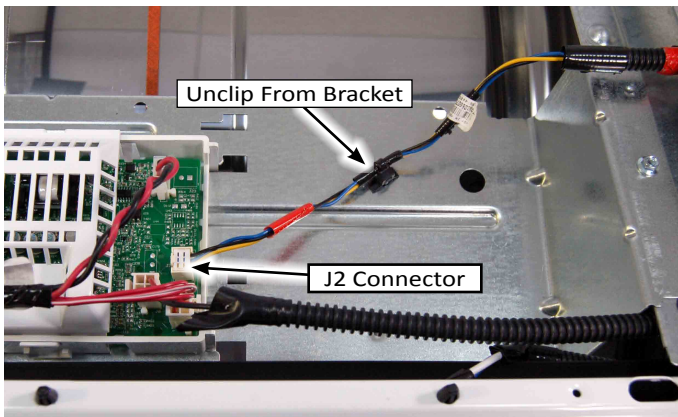

Figure 2
1. After removing the top panel, remove the User Interface connector J2 from the Appliance Control Unit (ACU). Unclip UI harness from bracket (see Figure 2).